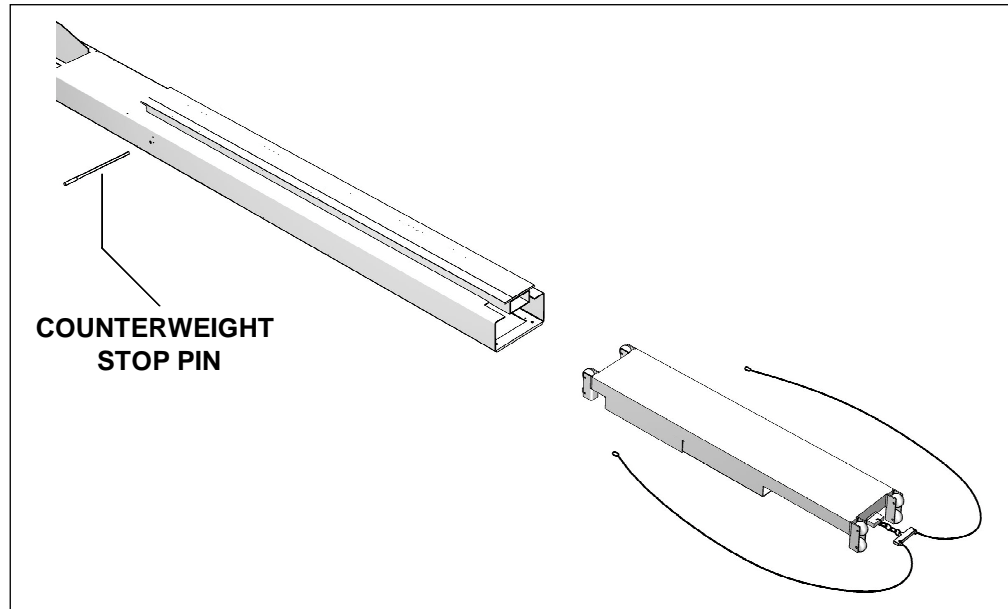

Figure 6-2
3. Insert the counterweight stop pin (code 5108102900) into the appropriate hole located at about mid-stand (Figure 6-2).